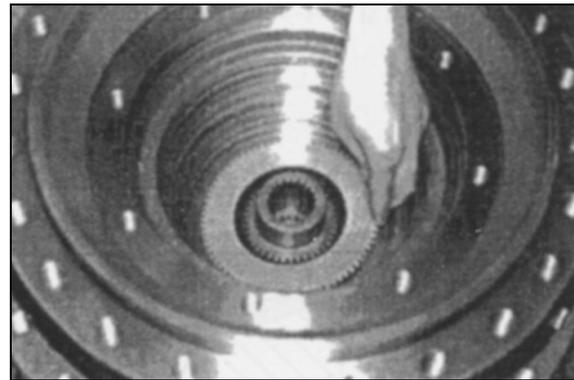

**Figure 117**
27. Install brake shaft while turning the reduction gear assembly. Figure 117.